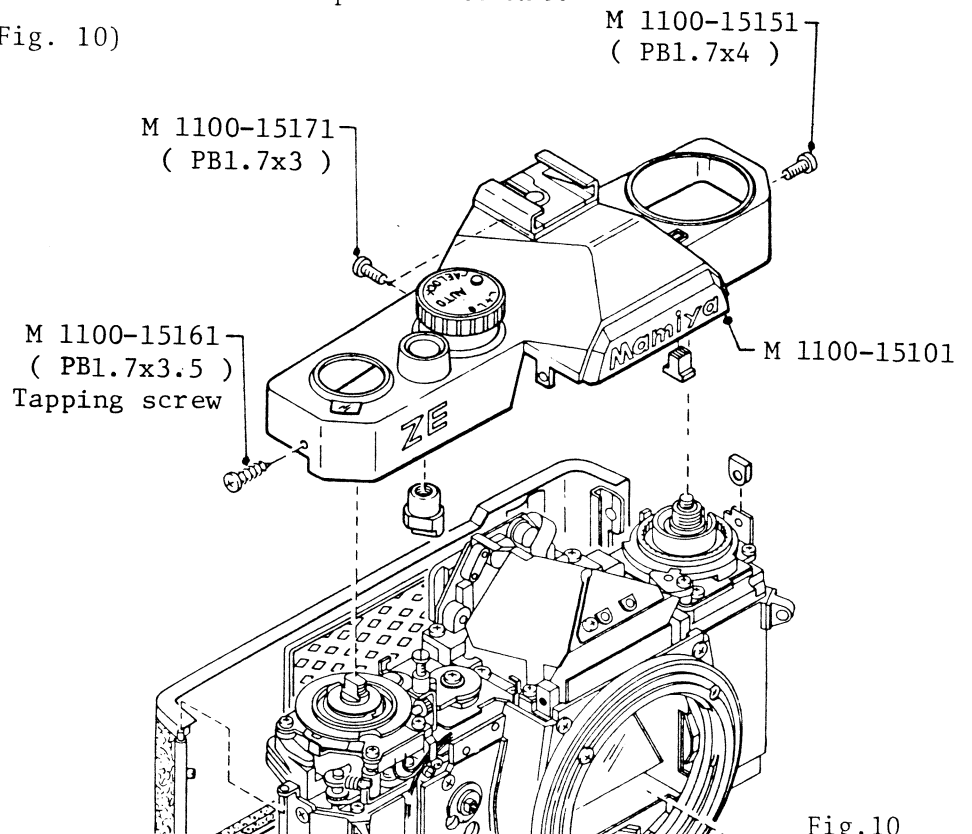

Fig.10
- b. Set the selector dial of the top cover to Auto as well. (Fig. 10)